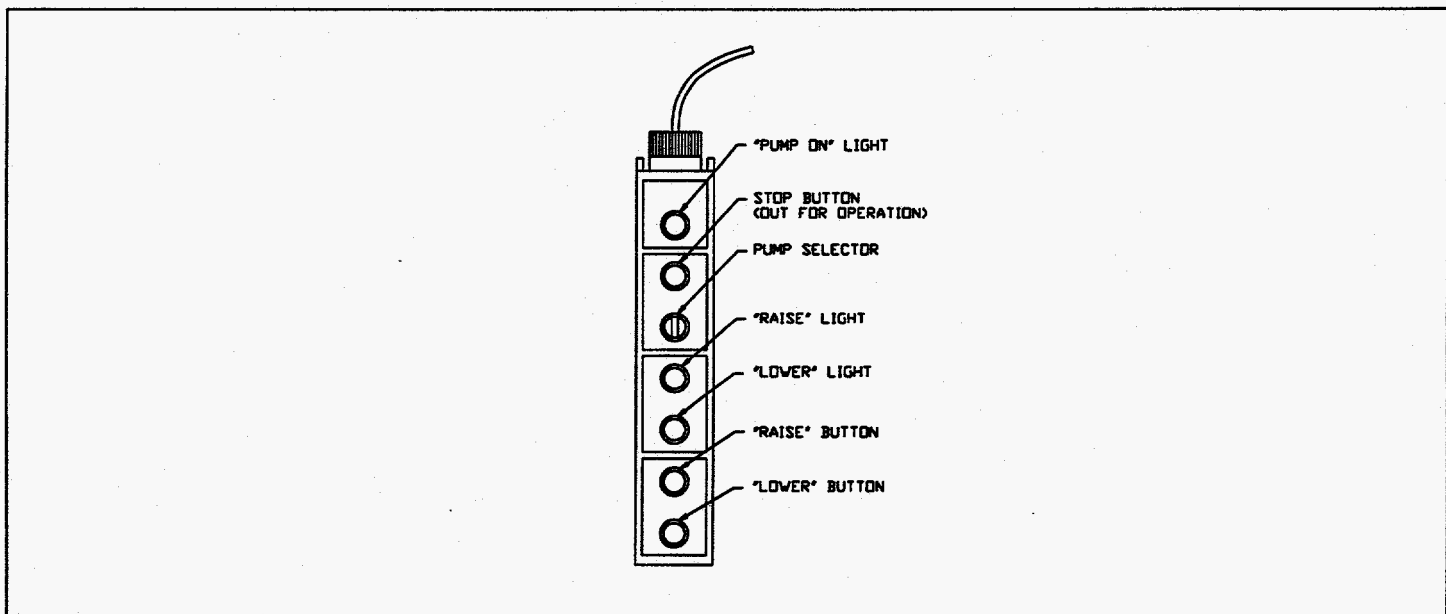

FIGURE 4, REMOTE PENDENT
- 5 On the remote pendent, pull the stop button out and turn the pump selector switch to the primary position (Figure 4, page 9). Verify that the POWER ON light is illuminated, this indicates that the pump is running.
- 6 Depress the RAISE button on the remote pendent and hold it down (Figure 4, page 9). This will raise the strongback to the vertical position. When the strongback reaches the vertical position it will stop automatically. If excessive bouncing occurs, stop operation and consult engineering.
- 8 To lower the strongback, pull the stop button out on the remote pendent and turn the pump selector switch to the primary position. Verify that the POWER ON light is illuminated on the remote pendent (Figure 4, page 9).
- 9 Depress the LOWER button on the remote pendent and hold it down (Figure 4, page 9). This will lower the strongback to the horizontal position. If excessive bouncing occurs, stop operation and consult engineering.
- 2 Turn the pump selector switch from the primary position to the auxiliary position and confirm that the POWER ON light is illuminated, (Figure 4, page 9).
- 3 Allow the auxiliary pump to run for a minimum of five (5) minutes before continuing with the prior operation. This will flush the system of any contaminants that may have been generated from the failed pump.